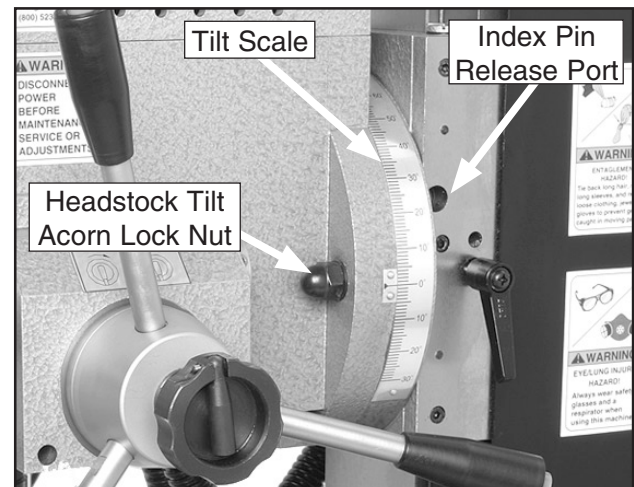

Figure 15. Headstock tilt controls.
2. Using a 17mm wrench, loosen both headstock tilt acorn lock nuts (**Figure 15**).
3. Insert a 6mm hex wrench into the index pin release port (**Figure 15**), and turn the hex wrench clockwise to disengage the spring-loaded index pin from the headstock.